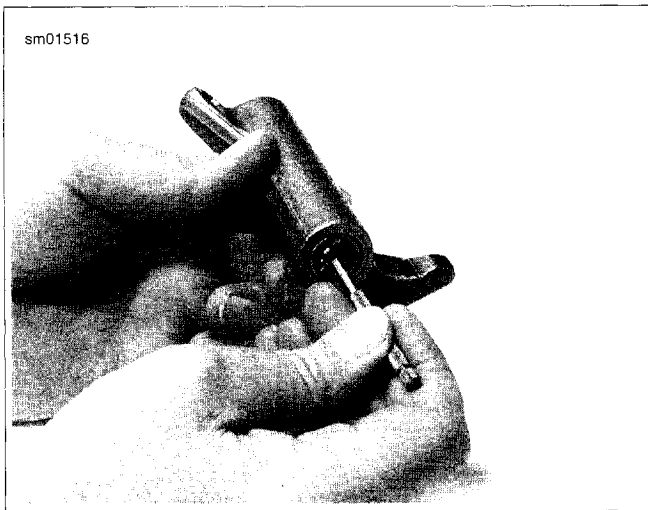

**Figure 3-116. Measuring Rocker Arm Shaft Diameter at Bushing Position (top) and Cover Position (bottom)**
2. See Figure 3-116. Measure and record rocker arm shaft diameter at the positions where rocker arm bushings ride and where shaft fits in inner rocker cover.